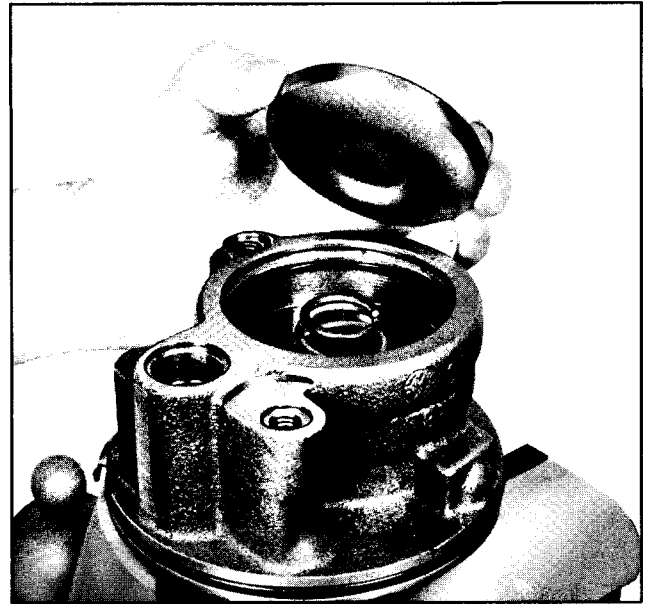

Fig. 9-111 Removing End Plate
6. Remove end plate and spring. End plate is spring-loaded and will generally sit above the housing level. If sticking should occur, a slight tapping action will free the plate (Fig. 9-111).